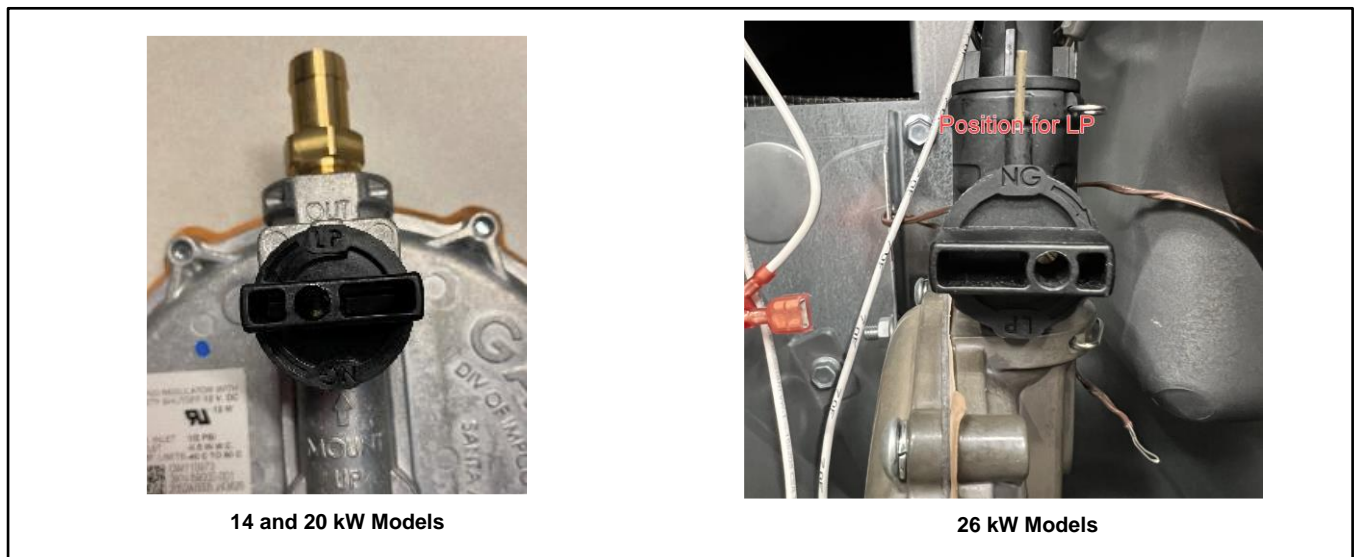

Figure 19 Knob Position, LPG
- b. For LPG, turn the selection knob counterclockwise as far as it will go, approximately $\frac{1}{4}$ turn. See Figure 19.